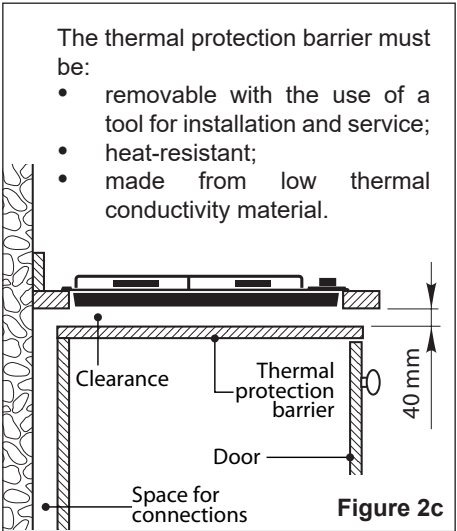

Figure 2c
- If the cooktop is installed directly above an oven (which does not have a cooling fan motor) or if its base is accessible through a cupboard or drawer space after installation, a thermal protection barrier must be installed below the base of the cooktop as indicated in fig. 2c.